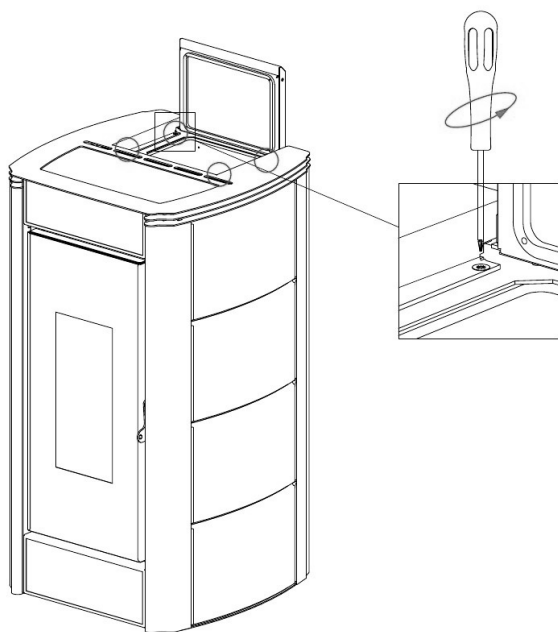

Fig. 33 - Remove screws
- Remove the cover: loosen the 4 upper screws (see **Fig. 33**).